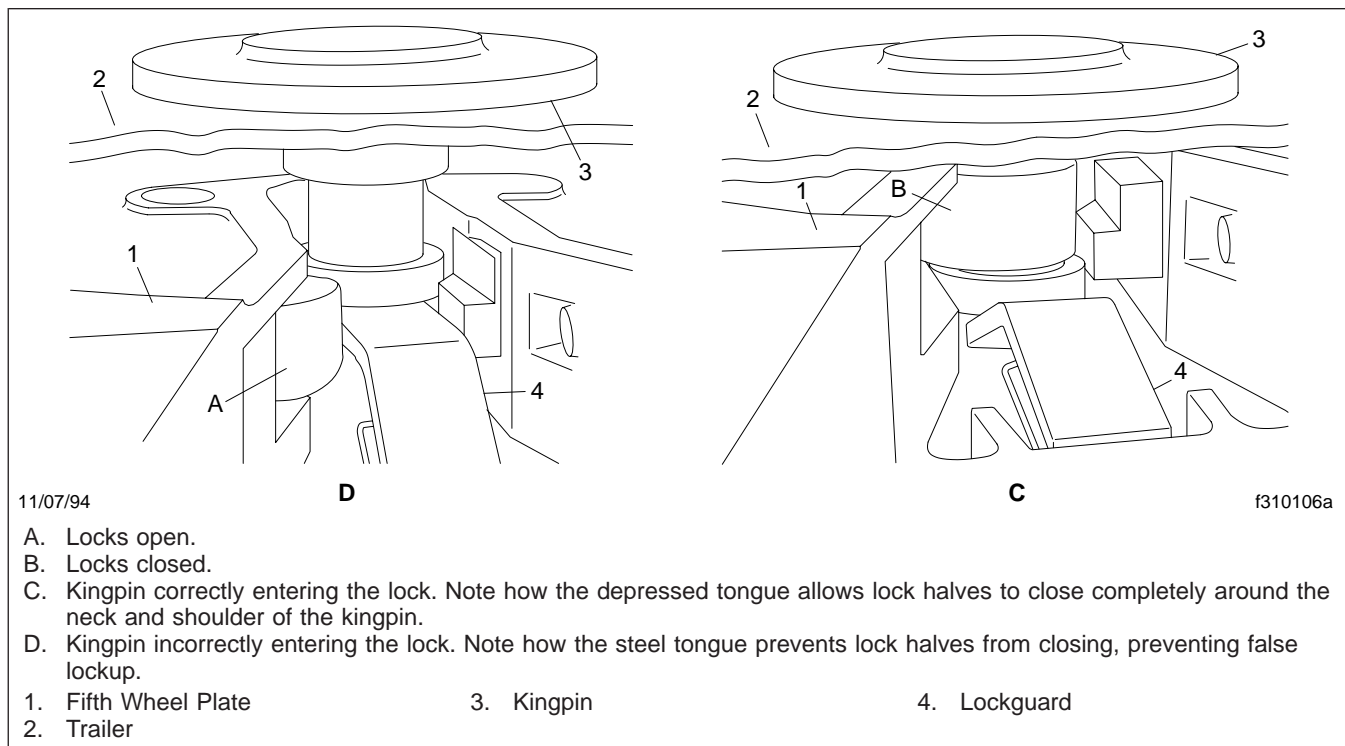

Fig. 10.6, Lockguard Mechanism (rear view)
Lockguard (Fig. 10.6)
3. Position the tractor so that the fifth wheel lock opening is in line (both vertically and horizontally) with the trailer kingpin. The kingpin should be in a position to enter the throat of the locking mechanism, to prevent a false lockup. See **Fig. 10.6**. Adjust the trailer landing gear to give enough alignment height so that the fifth wheel picks up the trailer on the fifth wheel ramps.